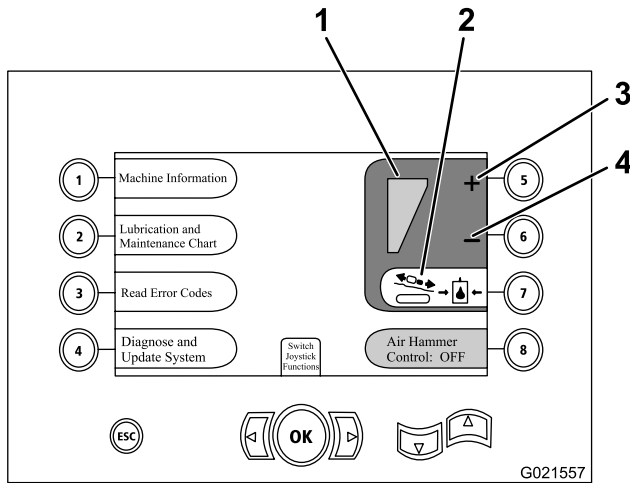

Figure 68
1. Press button 7 on the screen to turn the carriage pressure to the On position (green), as shown in Figure 68.